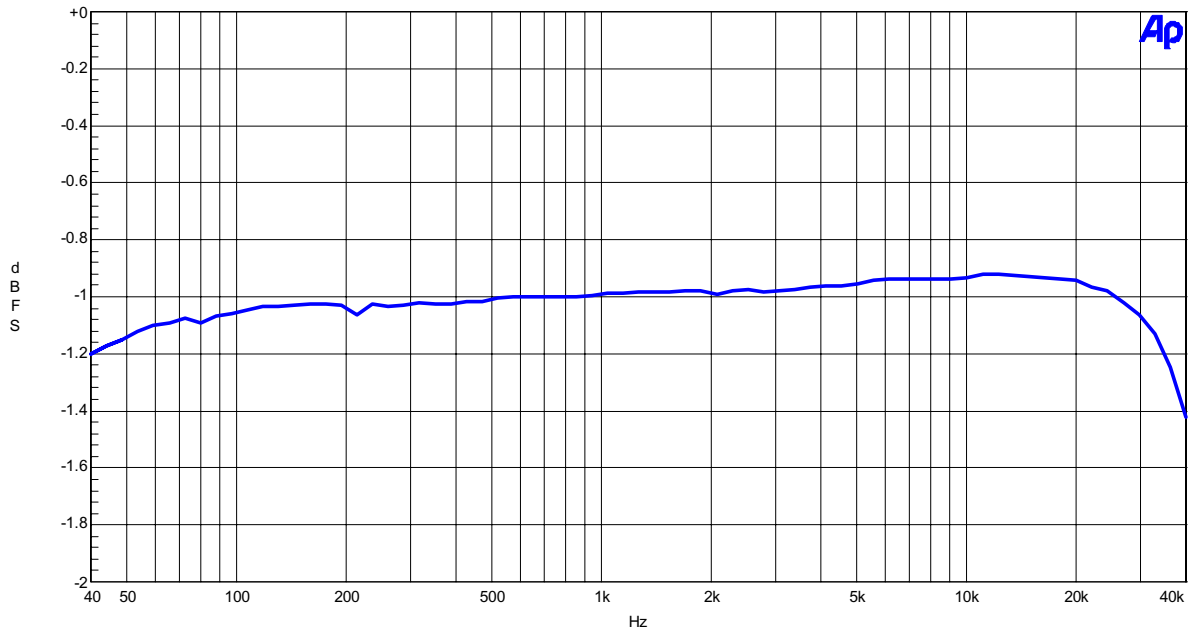

Figure 2-7. Frequency Response (Input Level=-1dBFS)
- Figure 2-7. Frequency Response (Input Level=-1dBFS)